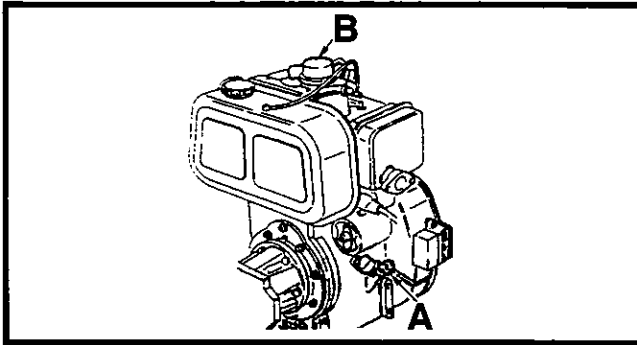

Figure 5-26 Engine Oil Fill Port
7. Refill crankcase with motor oil through the filler ('B', Figure 5-26). Fill to the full mark on the dipstick ('A', Figure 5-26). Refer to Section 8 - Fuel And Lubricant Instructions for oil details.